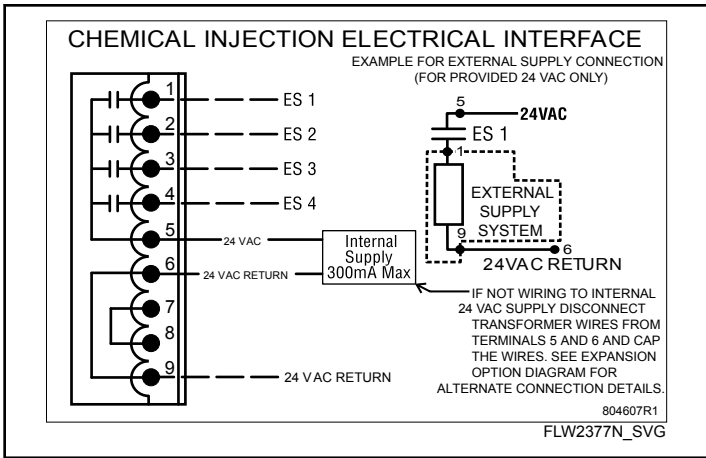

Figure 21
4. Refer to supply injection system instructions and label inside washer junction box cover (*Figure 21*) for electrical connection.